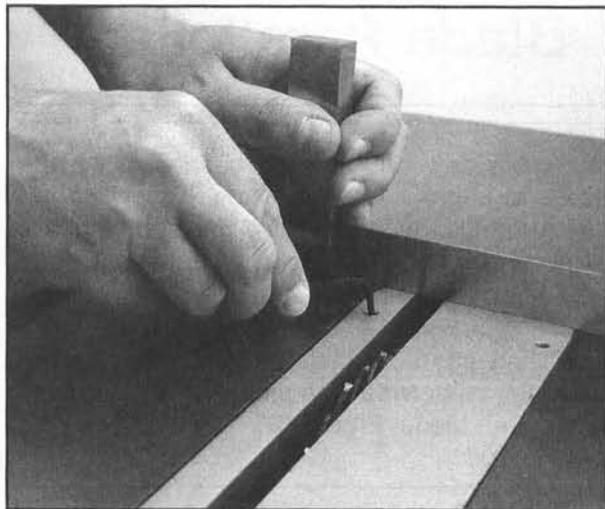

Figure 36.
2. Turn the setscrews in or out to adjust the insert flush with the table top. **Figure 36.** We recommend securing the setscrews in place with a drop of glue on the threads to keep the height adjustment from changing.